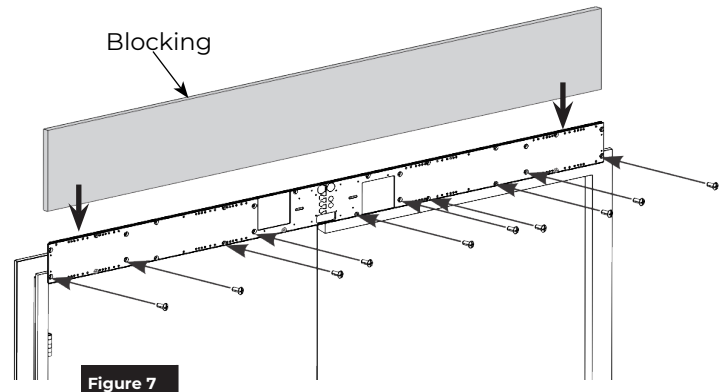

Figure 7
- Secure backplates to frame using eleven (11): 1/4-20 x 5/8" machine screws or 1/4 x 1-1/2" self-drilling screws from screw packs in Boxes 1 and 2 (Figure 7).
NOTE: It is important to properly secure top edge of backplate. Use of blocking (supplied by others) or shims (provided) to fill gap between backplate and wall above header is HIGHLY recommended. Material must comply with local codes. Failure to properly secure top of backplate could result in operator being allowed to 'rock' during operation. This could result in damage to operator and diminish operator function. (Figure 7)